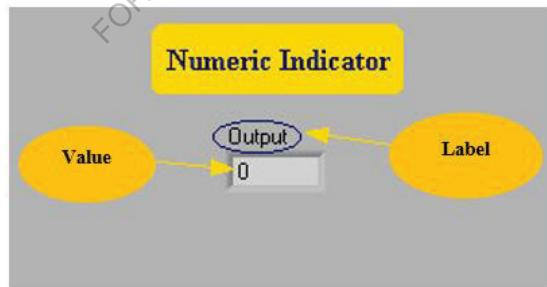

Figure 2.26: Numeric Indicator (Output)
**Numeric Indicator** contains several properties such as **title** and **value**, as shown in figure 2.26.